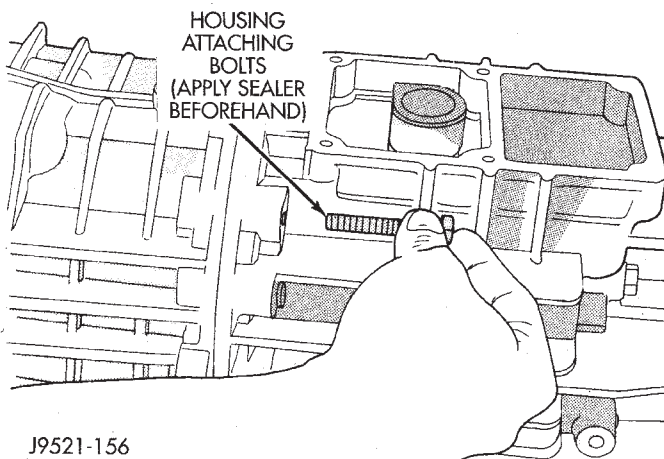

Fig. 123 Installing Housing Attaching Bolts
(9) Place transmission in horizontal position.
(10) Apply Mopar® Gasket Maker, or equivalent, to housing attaching bolts. Apply sealer material sealer to underside of bolt heads and to bolt shanks and threads (Fig. 123).
(11) Install and start housing attaching bolts by hand (Fig. 123). Then tighten bolts to 30-35 N·m (22-26 ft. lbs.) torque.